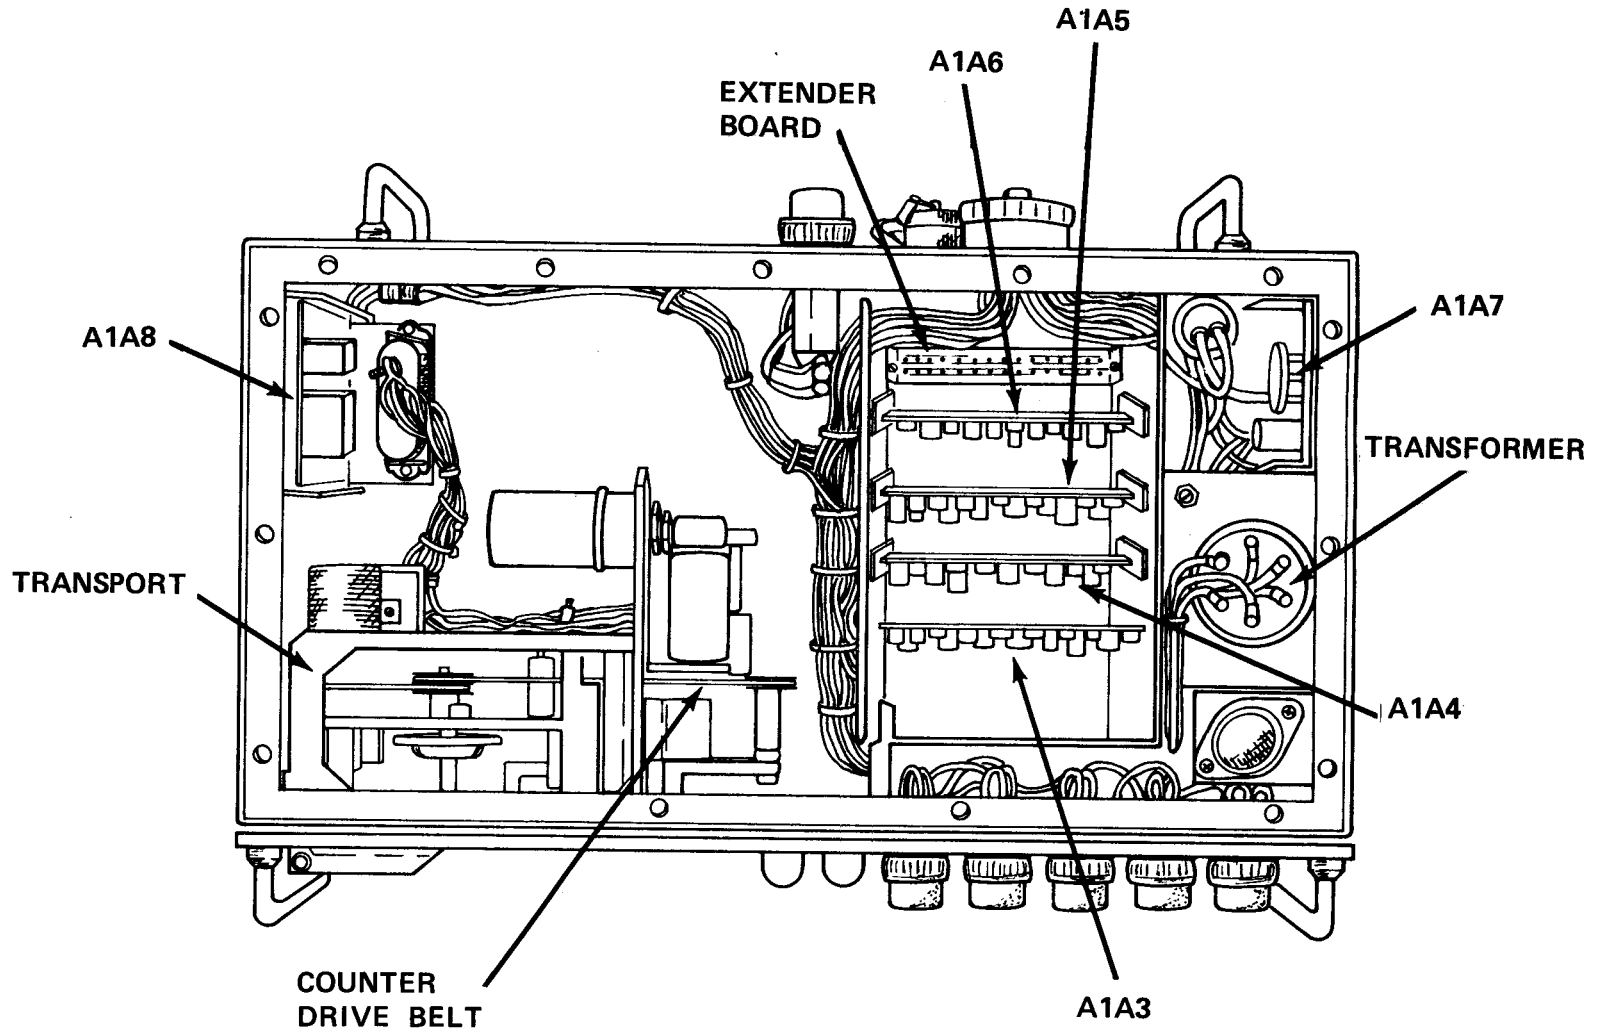

FIGURE 7-1
b. Direct replacement of the record/reproduce amplifier (A1A3), motor control servo board (A1A5), preamp board (A1A8), bias oscillator and meter drive board (A1A4), power supply board (A1A7) and control logic board (A1A6). See Figure 7-1. for component location.
- b. Connect negative lead of multimeter to the reference ground terminal TP2 on logic board A1A6. (See Figure 7-1.)